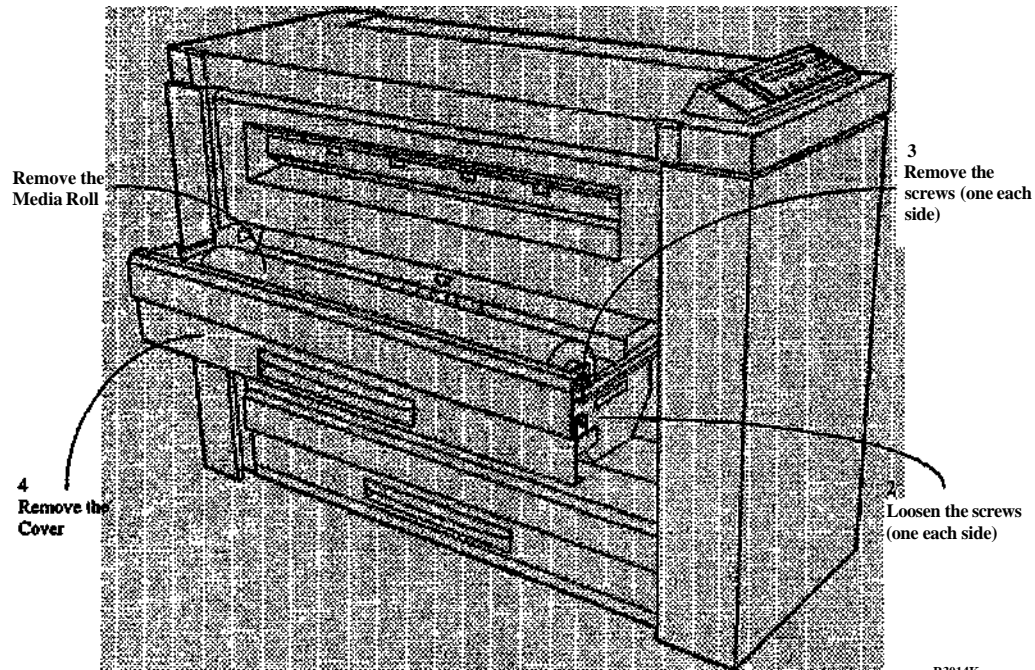

Figure 1. Removing the Cover
2. (Figure 1): Remove the Cover.